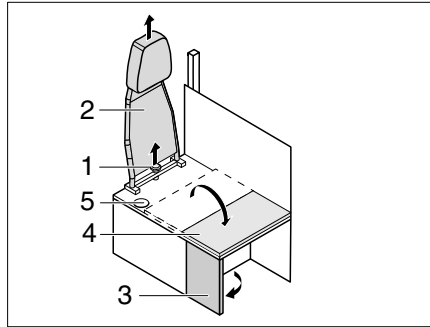

Fig. 210 Conversion drive - living mode
- Unscrew the star screw (Fig. 210,1) and remove the backrest (Fig. 210,2) towards the top.
- Fold out the side panel (Fig. 210,3).
- Fold the seat bench extension (Fig. 210,4) to the side panel.
- ▷ When converting from living to travel mode proceed in the reverse order. Make sure that the safety belt is lead through the opening (Fig. 210,5).